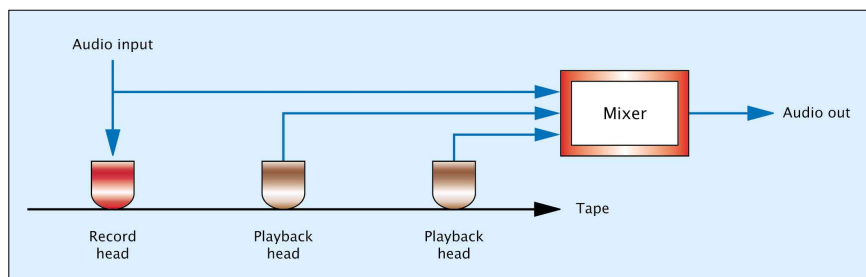

Figure 5: Figure 4 implemented as a tape-delay system.
► a single impulse (a 'ping') to the input, we obtain 'pause... ping...pause...ping' at the output. Interesting though this is, it's not very musical, because the initial 'ping' — whether sung or played on an instrument — is lost, and if you played this on the beat, the first 'ping' that you would hear would trail the beat by the length of the first delay line. So we add another signal path that carries the original signal directly to the mixer, as shown in Figure 4 (on the previous page). Now we obtain 'ping...pause... ping...pause...ping', which is much more musical. The tape delay achieves the same effect by using two playback heads and directing part of the input signal to the output, as shown in Figure 5 (top). At this point, it's worth noting that there's nothing stopping you from